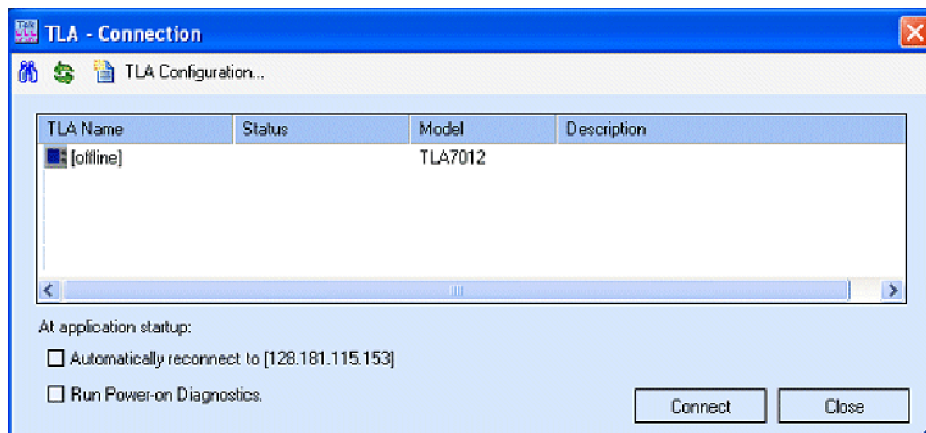

Figure 13: TLA Connection dialog box
10. Start the TLA application by double-clicking the TLA Application icon on the controller. The TLA Connection dialog box appears. (See Figure 13.)